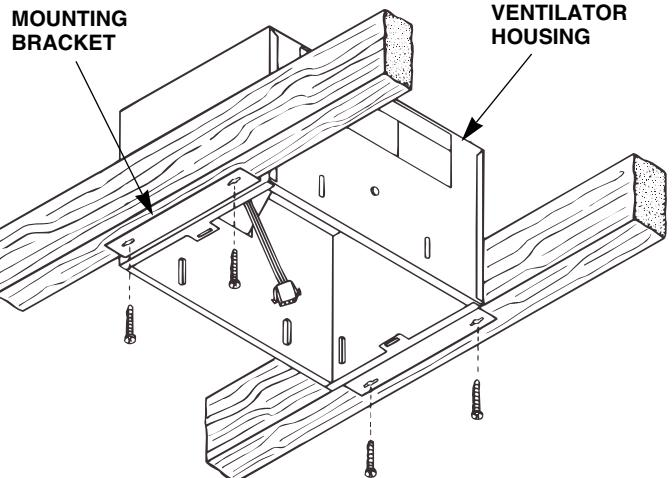

FIGURE 4
2. Refer to Figure 4. Screw housing to joists using holes in mounting brackets and four (4) screws furnished.